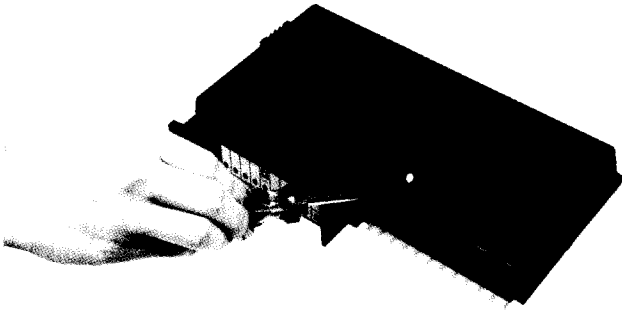

Figure 5: Fuse removal
4. Use a fuse puller or small screwdriver to pry up one end of the fuse, being careful not to damage the printed circuit board underneath. See Figure 5.